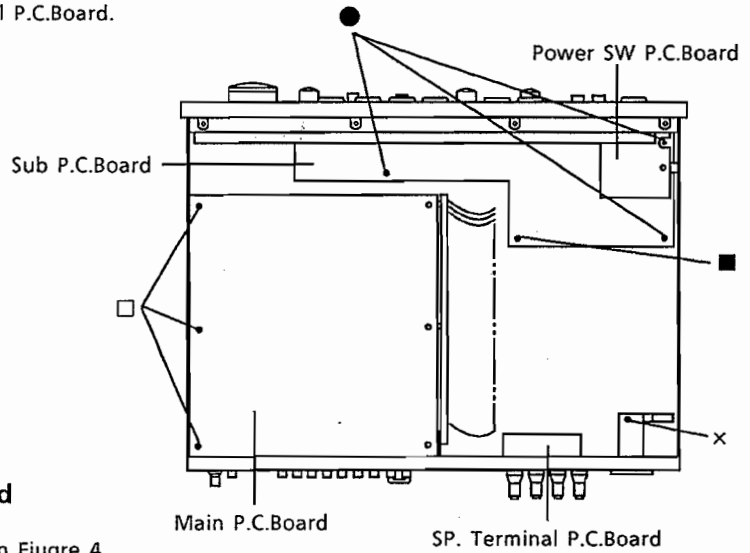
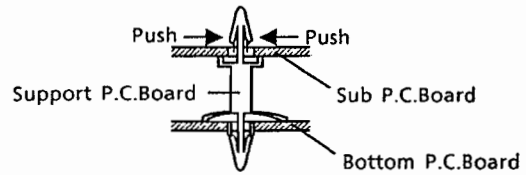

Figure 4
Figure 5
- (1) After removal of Front Panel, remove one Support P.C.Board marked "■" from Sub P.C.Board as shown in Figure 4, by pushing the point "A" as shown in Figure 5.
- (2) Remove three screws marked "●" as shown in Figure 4.
- (3) Disconnect all wires from the Sub P.C.Board.
- (1) Remove one screw marked "x" as shown in Figure 4.